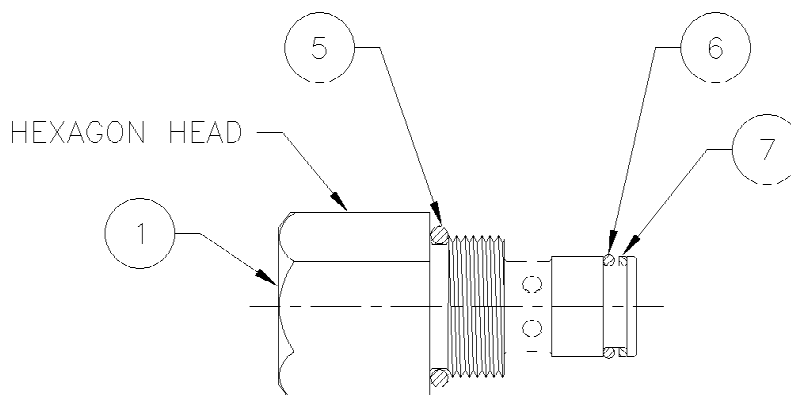

figure S-1
1. Install the housing seal (5) (fig. S-1) in the groove next to the hexagon head of the plunger housing (1). Place the o-ring (6) and the square backup ring (7) in the groove at the end of the plunger housing as shown in figure S-1.